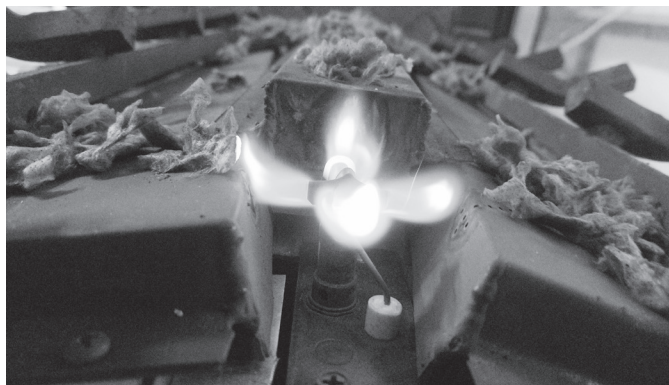

Figure 4.7 IPI Pilot Flame Patterns
- Inspect pilot flame pattern and strength. See Figure 4.7 for proper pilot flame pattern. Clean or replace orifice spud as necessary.